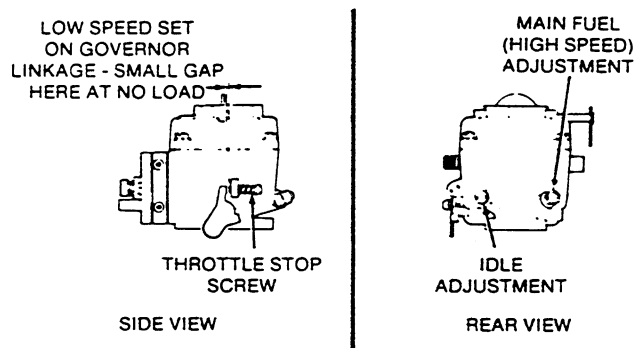

FIGURE 6. CARBURETOR ADJUSTMENT
1. Turn both mixture screws (Figure 6) in until lightly seated, then back the idle mixture screw out 1-1/8 turns and the main mixture screw out 1-1/4 turns.